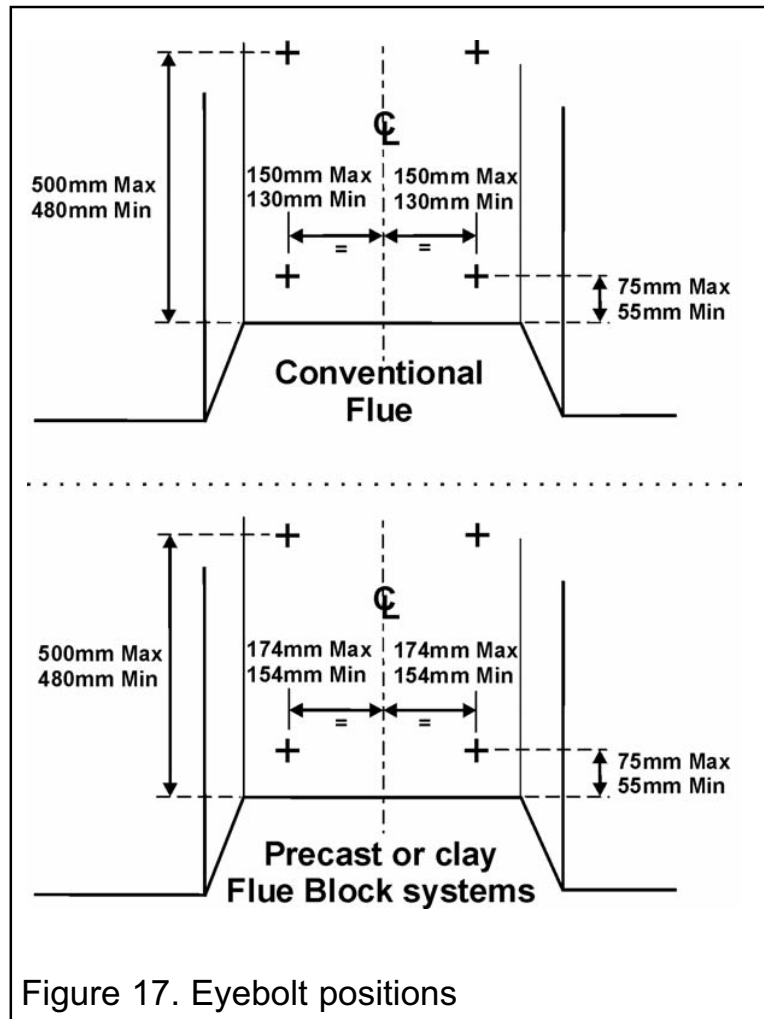

Figure 17. Eyebolt positions
2. Drill four holes in the rear wall of the fireplace for the fibre / wooden plugs. The holes should be drilled within the range of positions shown in figure 17 using a suitably sized masonry drill bit for the fibre / wooden plugs supplied. The holes should be equidistant each side of the centre line of the fireplace to ensure that the appliance finishes centrally in the opening when tension is applied to the cables.